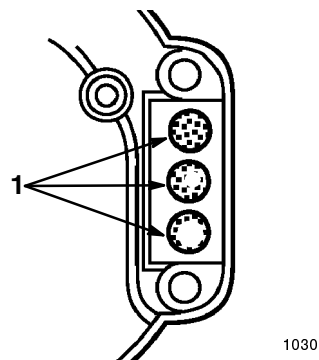

Figure 35
8. Rotate the crankshaft slowly until the piston covers the exhaust ports (Fig. 35).